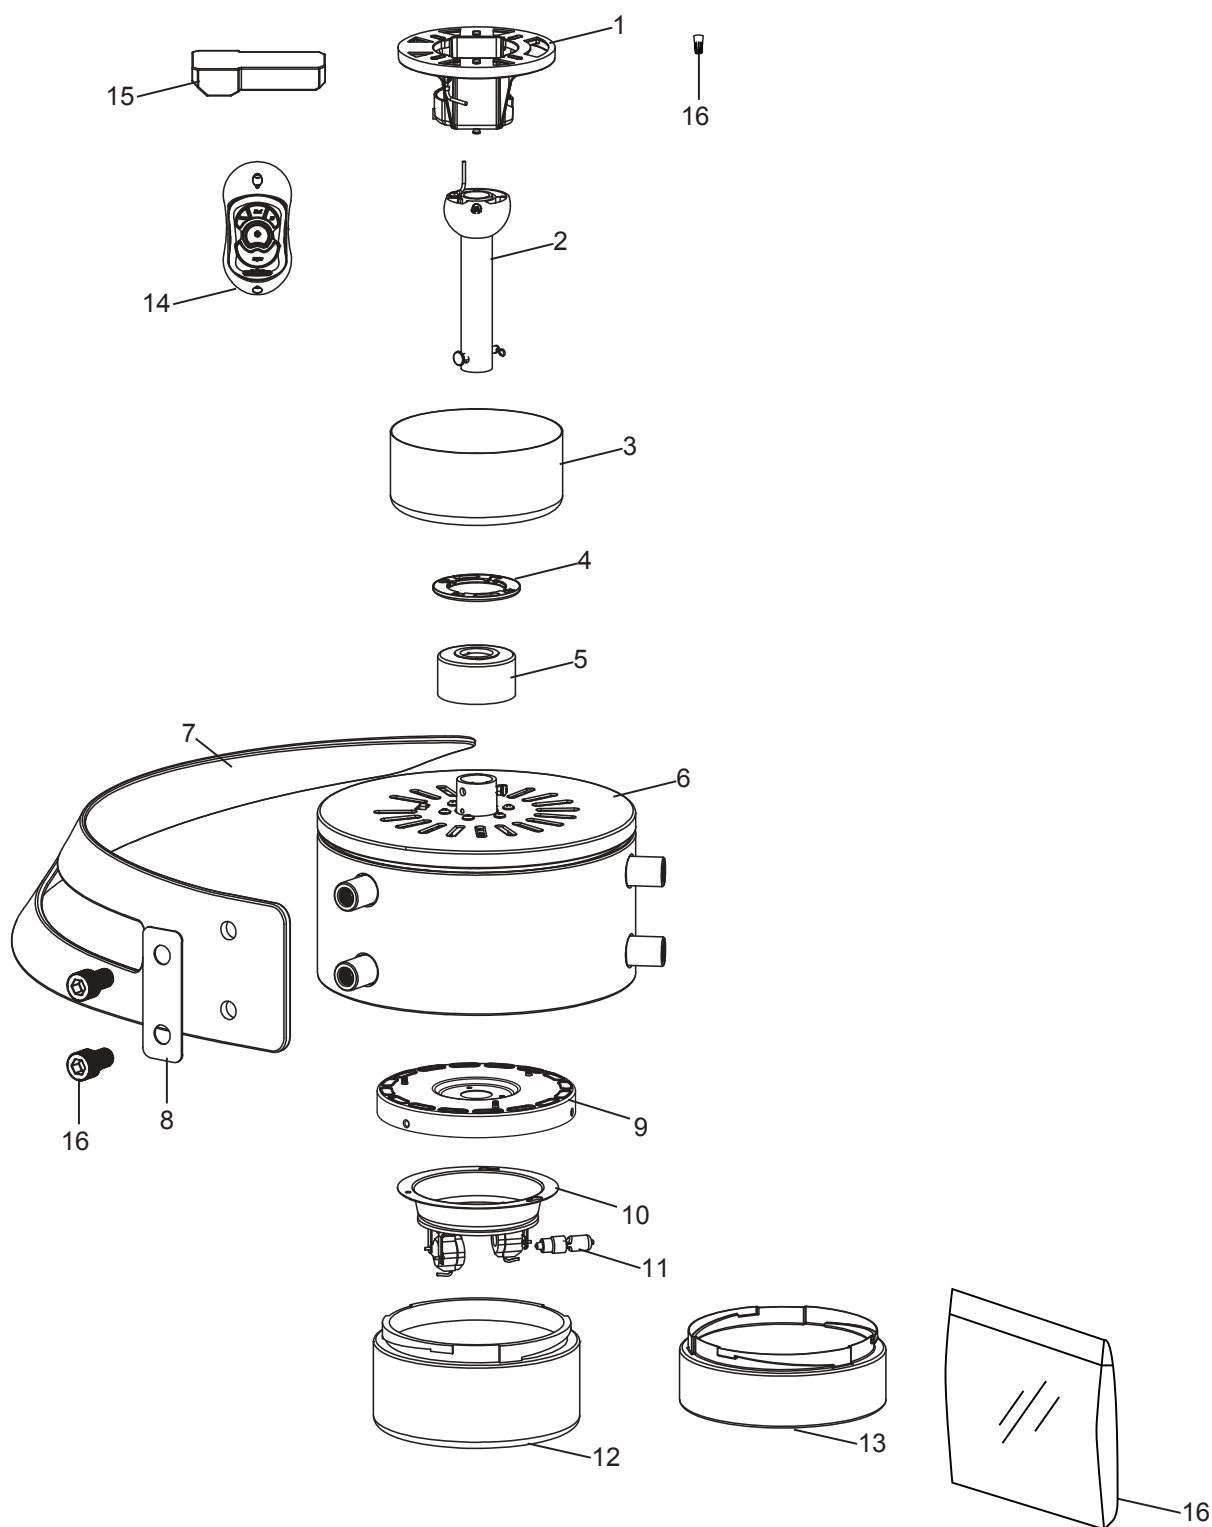

Figure 1
1. Unthread two screws from the wall switch plate. (Figure 1)
1. Drill two 1/4" holes in the wall and push the M6 plastic anchors into the holes. Install the control bracket using the two #3 - 1" self tap screws. Push in the four plastic plugs to cover the screw holes. (Included with the control). (Figure 1)